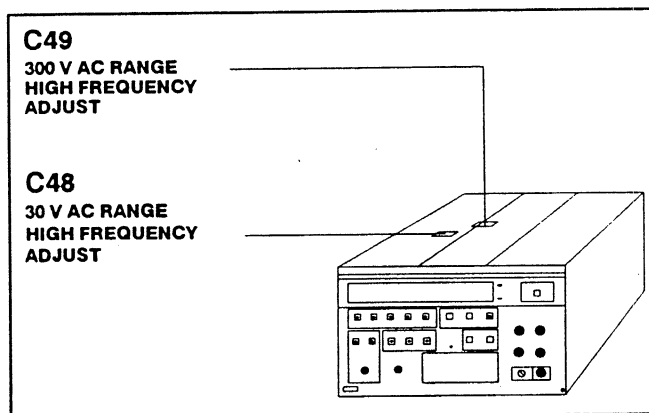

Fig. 3-4. AC Volts High Frequency Adjustments.
n. ADJUST-C49 (Fig. 3-4) for a display reading of 100.000 V \pm 0.250 V.
q. ADJUST-C48 (Fig. 3-4) for a display reading of 10.0000 V \pm 0.0250 V.